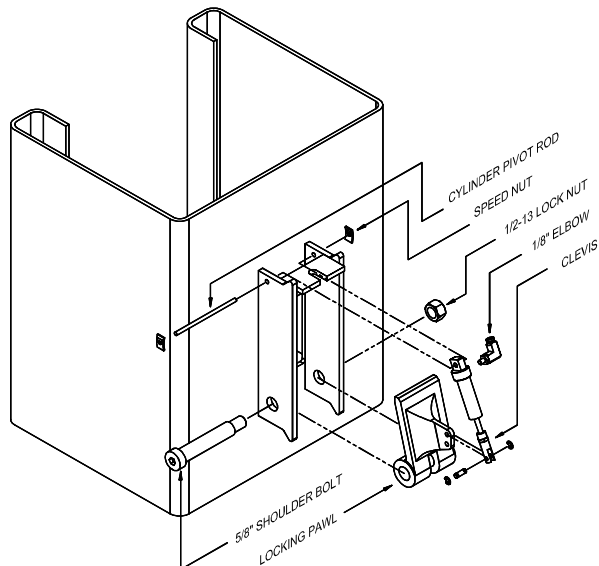

Fig 6
10. Install the locking pawl and actuator as shown in **Fig 6**. With the aid of an assistant, manually raise the carriages to a comfortable working height and set in locks at equal heights.